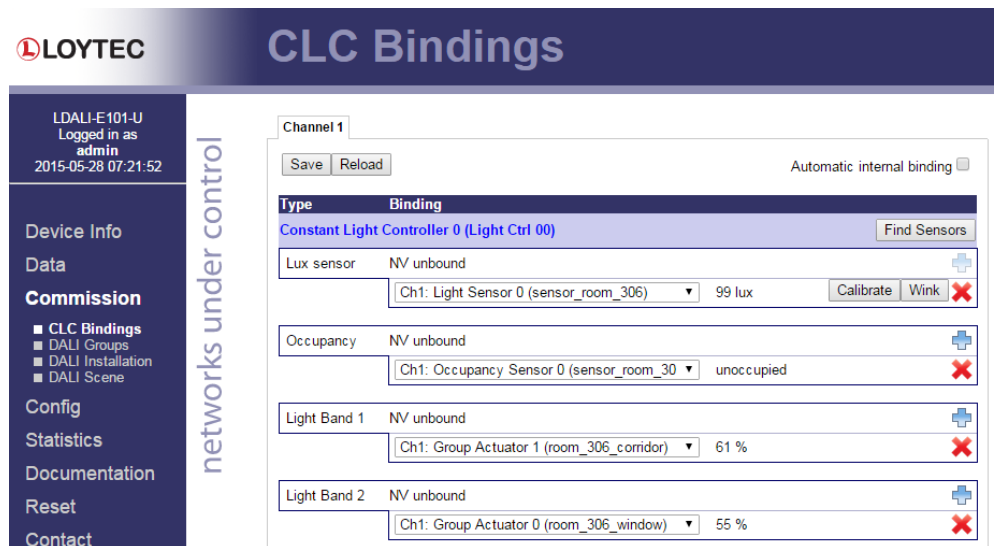

Figure 52: DALI Installation Web Interface: CLC Bindings.
5. To determine which sensors (occupancy & lux) are used as inputs to and which light groups are controlled by a constant light controller instance go to the **CLC Bindings** page (see Figure 52).